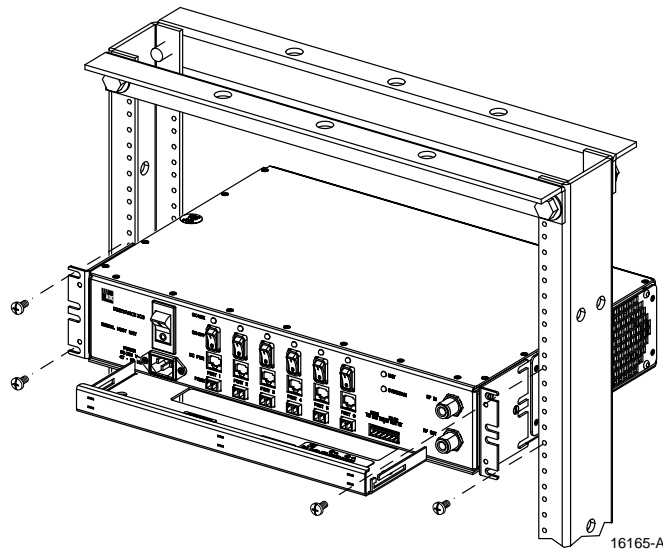

Figure 16. DHU Rack Mount Installation
4. Position the DHU in the designated mounting space in the rack (per system design) and then secure the mounting brackets to the rack using the four machine screws provided (use #12-24 screws or M6 x 10 screws, whichever is appropriate) as shown in Figure 16.